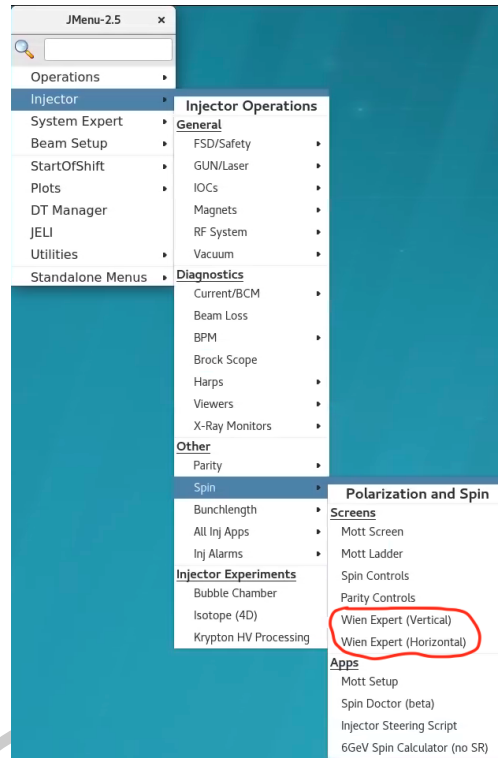
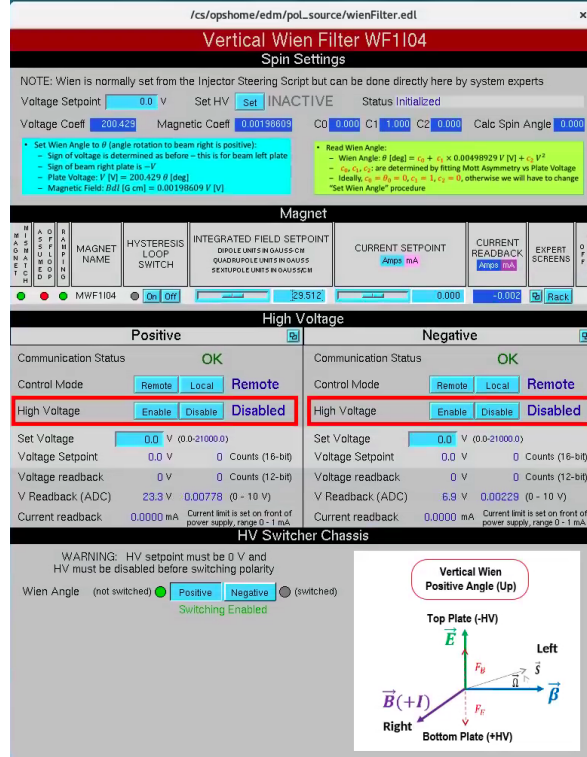
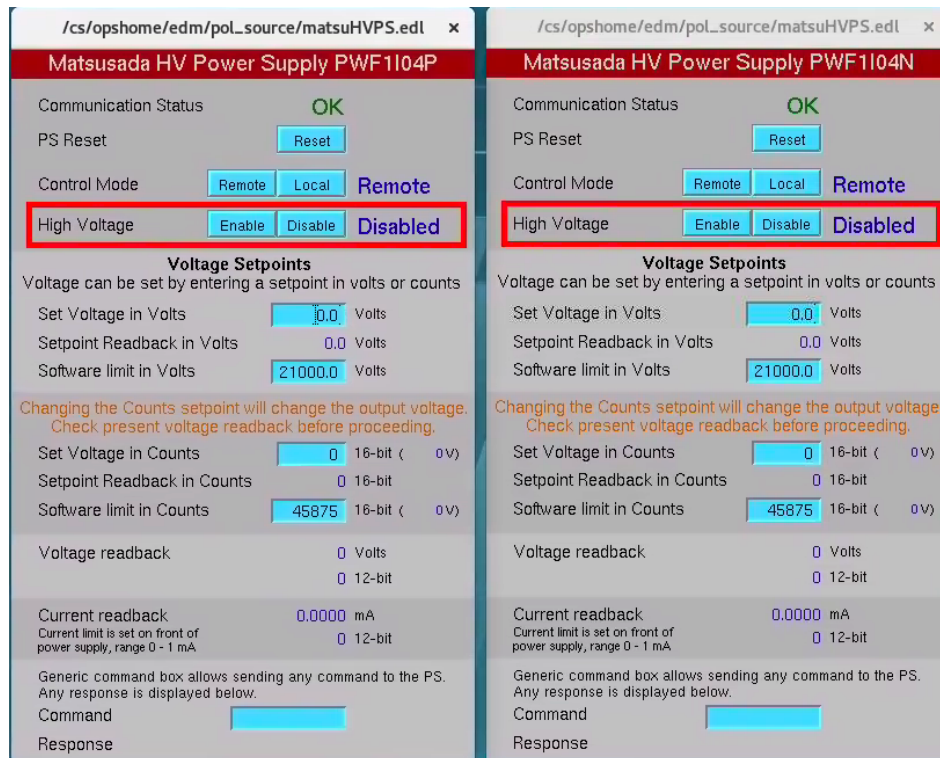

Figure 3: JMenu entries for the Wien expert screens.
Figure 4: Wien filter expert screen. In this example, both HV supplies are disabled, and the polarity switch is set to positive.
Figure 5: High-voltage power supply expert screen.
as shown in Fig. 3. Figure 4 shows the V-Wien expert screen as an example.
- **High Voltage:** Similarly, the High Voltage is nominally Enabled and can be toggled using the buttons. The example in Fig. 4 shows both positive and negative HV Disabled.
Figure 4 shows the V-Wien in the positive Wien angle configuration. Because both positive and negative HV are disabled, the green “Switching Enabled” message is displayed. A diagram made by R. Suleiman depicts the fields, forces, beam, and Wien angle configuration according to the set polarity. If the polarity is changed, the diagram changes accordingly.
The secondary expert screen shown in Fig. 5 is launched by clicking the top right button in the positive or negative high voltage section of the Wien filter expert screen (Fig. 4), respectively. This screen has the same high-voltage controls functions found in the Wien Expert screen, but additionally:
1. Check the Wien Angle polarity in the HV Switcher section of the desired Wien filter expert screen (Fig. 4). If the polarity is the one desired, proceed. If not, go to section 3.4.